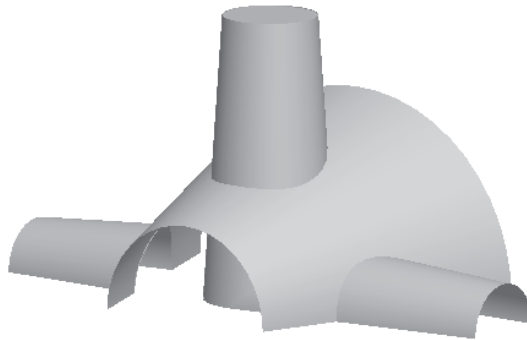

Figure 14-79 Surface model after merging the two surfaces
- f. Next, select the surfaces individually and merge them, refer to Figures 14-79 and 14-80.
4. Exit the dashboard by selecting the **Build Feature** button. The model, after merging the two surfaces, is shown in Figure 14-79.